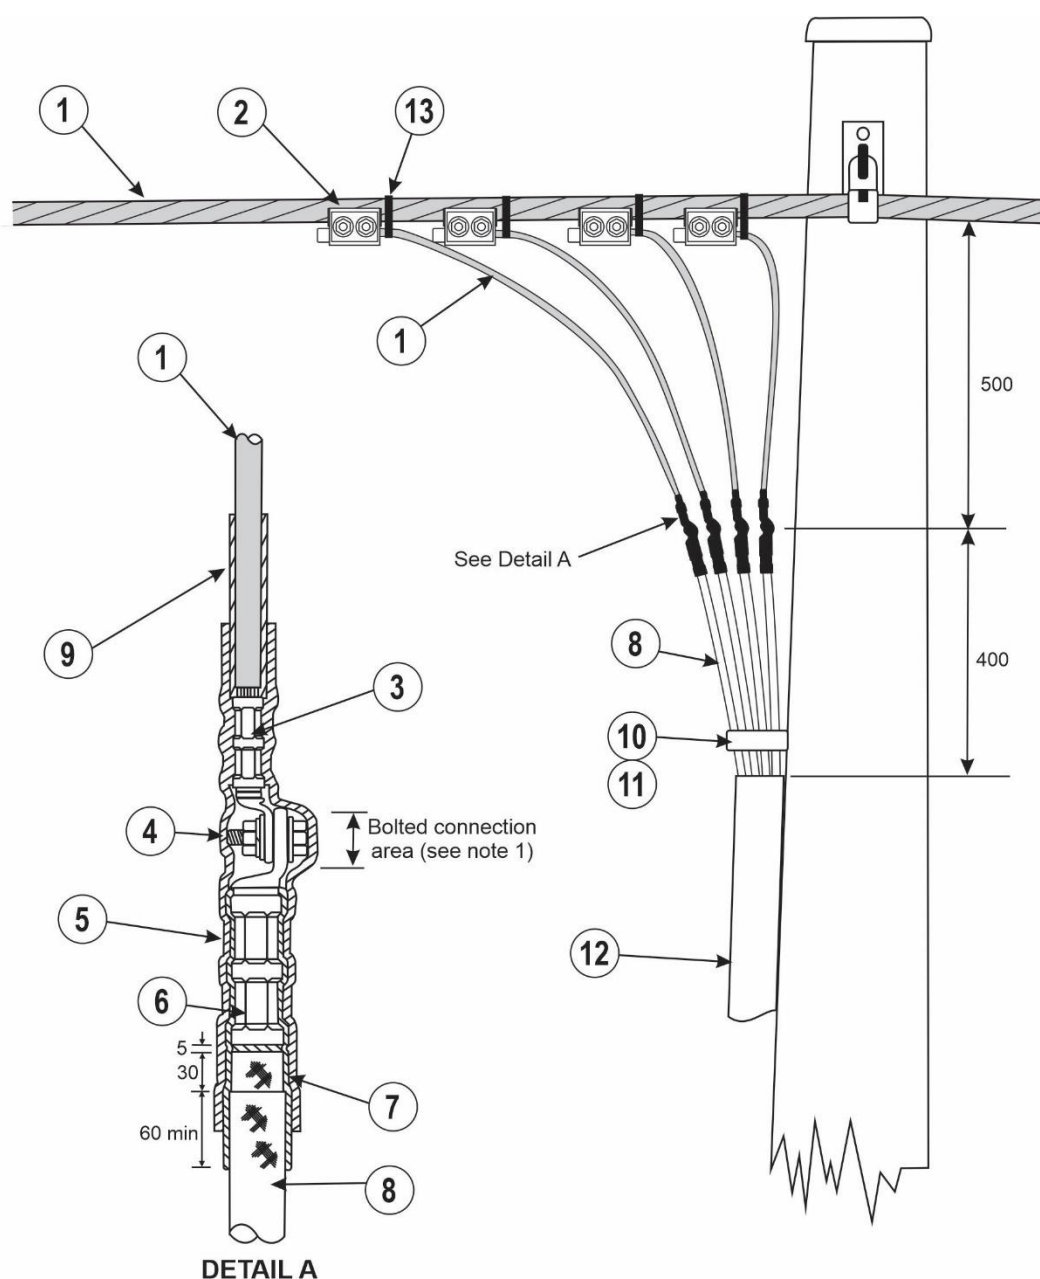

Figure 14.1 – General Arrangement (150mm² LVABC shown)
1. Cover the bolted connection area with fibreglass tape to keep it free from any adhesives flowing from item 5.
2. Abrade the cable sheath and the cable insulation to the dimensions shown on Figure 14.1.